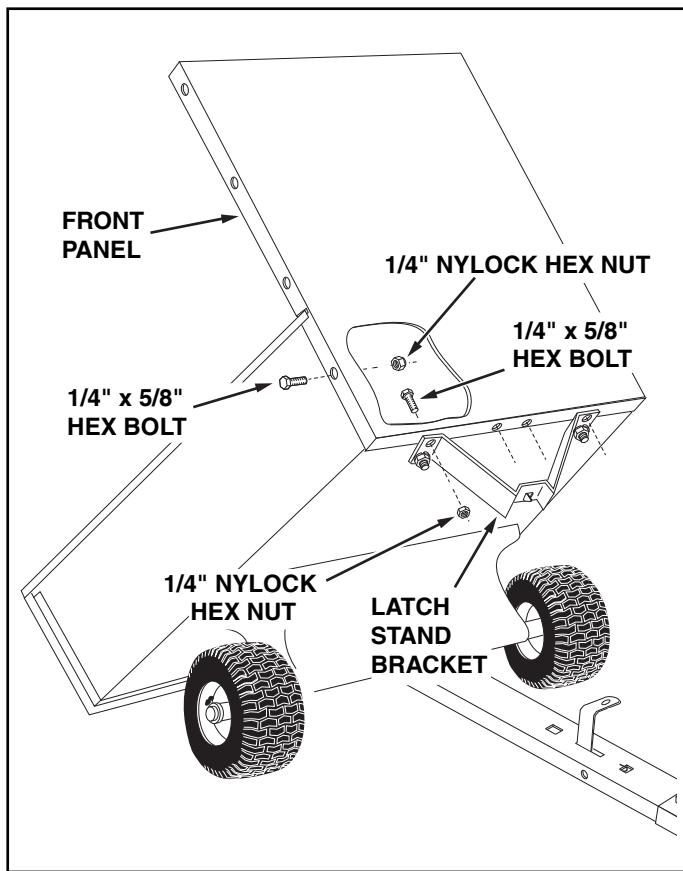

FIGURE 10
17. Release the latch lock lever and tilt the cart bed back. See figure 10.
18. Assemble the front panel to the cart bed, sliding the bottom lip of the panel in between the cart bed and the latch stand bracket. Fasten the panel to the bottom and sides of the cart bed using six 1/4" x 5/8" hex bolts and 1/4" Nylock hex nuts. **Tighten.** See figure 10.